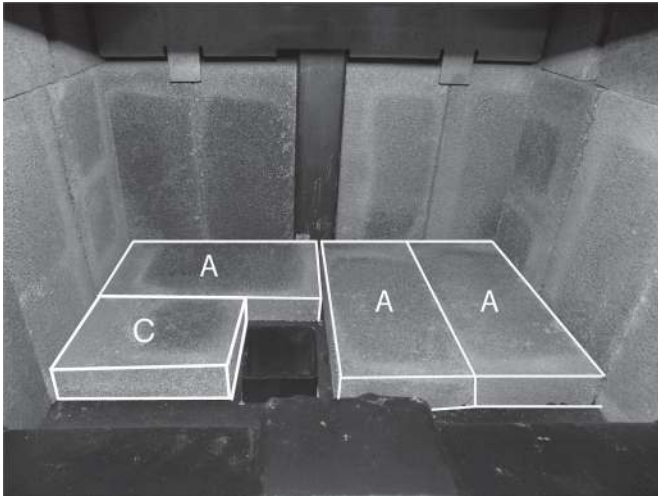

Figure 17: Floor brick in place.
5. Place two "A" firebricks on the firebox floor as shown. Place a third "A" firebrick against the rear wall as shown in (Figure 17).
6. Place the "C" firebrick so that it sits beside the ash dump, against the lefthand side wall and the "A" firebrick located directly behind the ash dump (Figure 17).